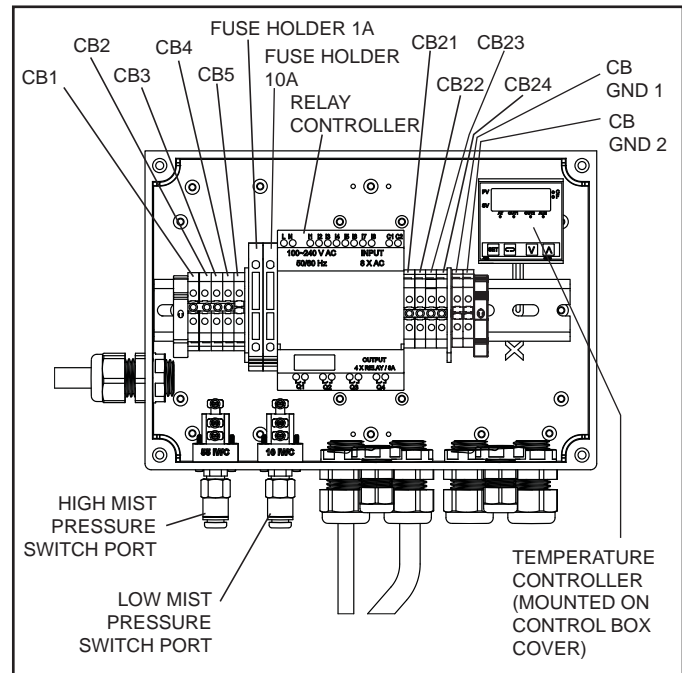

Figure 9 Control Box Terminal Locations
5. Connect Line (L1), Neutral (N) and Ground (GND) to the unit as per Figure 9.
- B. The neutral conductor (N) should be connected to the empty terminal at location CB21.